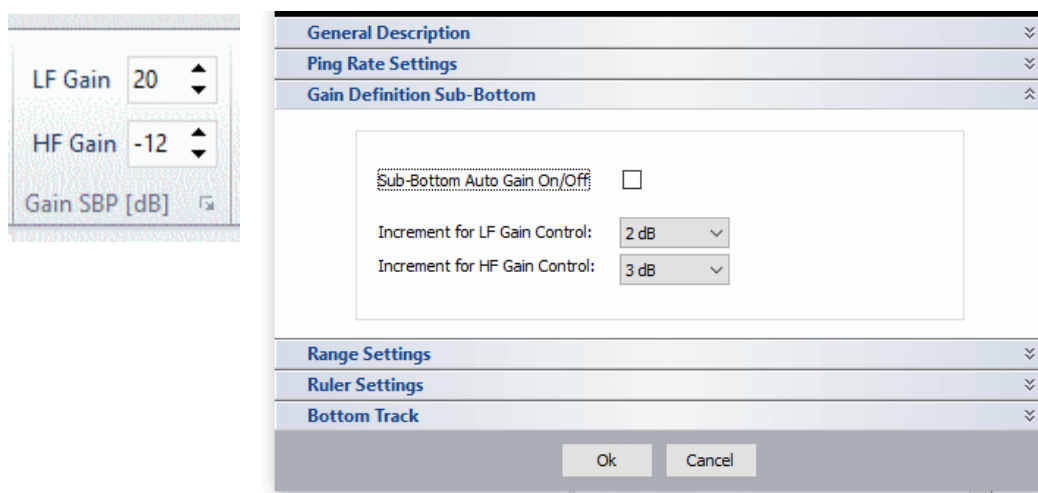

Figure 7: Setup menu, Gain definition
- Gain definition Sub-Bottom:** Gains employed in the home window menu bar during data acquisition are final. They are set by the hardware and cannot be changed later. You may set increments for the HF and LF gain controls (Figure 7). These increments apply to the LF and HF gain in the home window. A good starting value would be an increment of 2 or 3 dB.